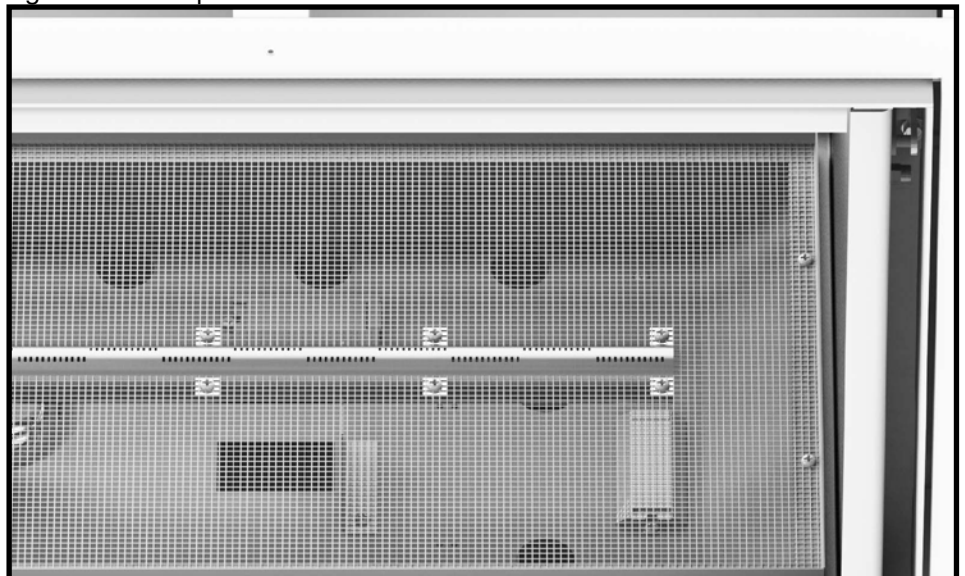

Figure 76: Mesh installation.
9. Place mesh burner tray on top of burners and secure the tray ends to the panels first. Two screws per side. (Figure 76)